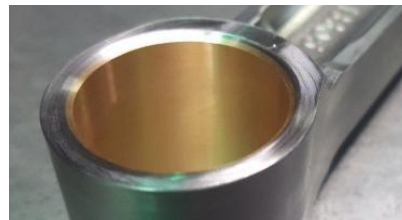

Figure 3
NOTICE: Some connecting rod bushings have a straight edge (Figure 2) and others have a chamfered edge (Figure 3) on both sides after the bushing is installed at the factory. Some inspection steps apply specifically to the design application.
B. On *chamfered connecting rod bushings* (Figure 3), look at the perimeter edge of the applicable connecting rod bushing within the connecting rod.